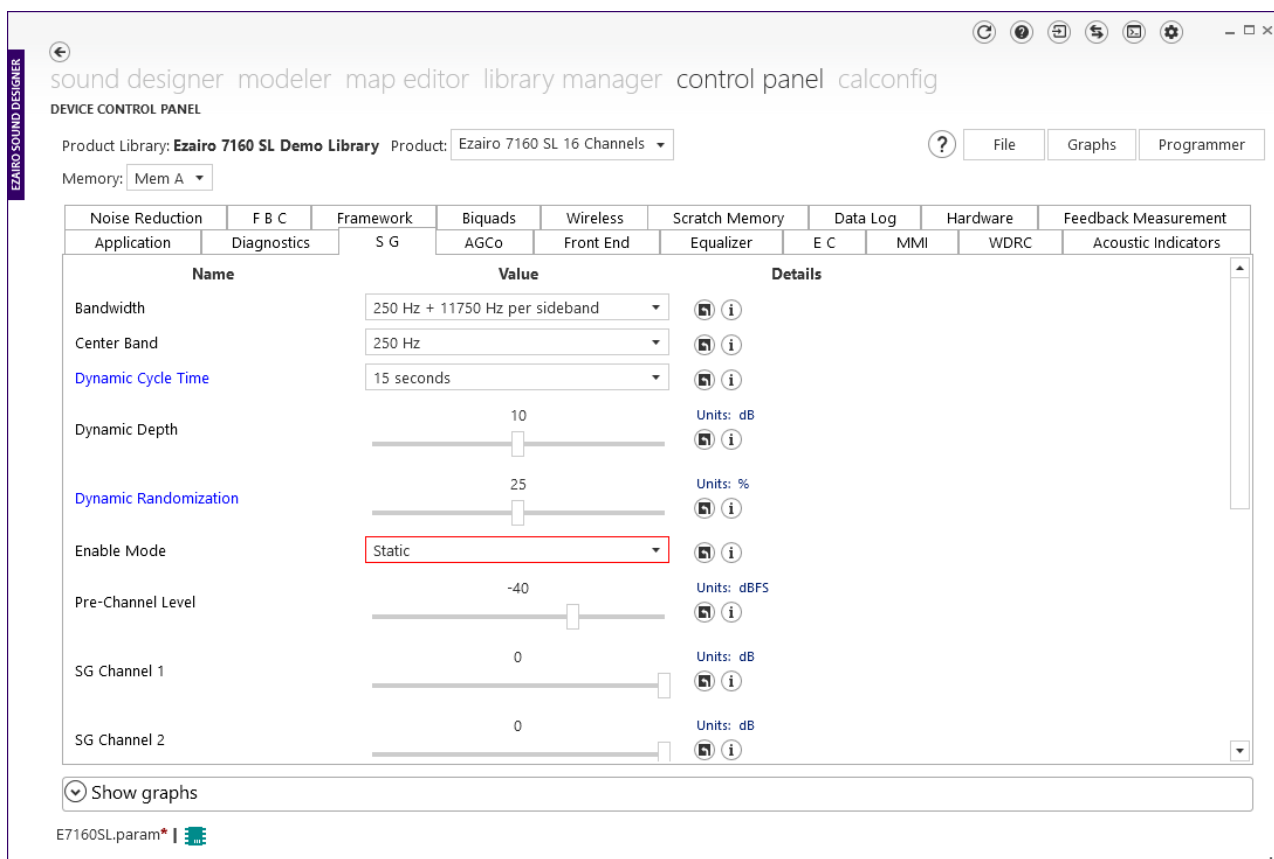

Figure 12. Enabling the Sound Generator
4. Enable the sound generator by selecting **Static** from the drop-down menu for the **Enable Mode** parameter. The Control Panel screen needs to look like the "Enabling the Sound Generator " figure (Figure 12).